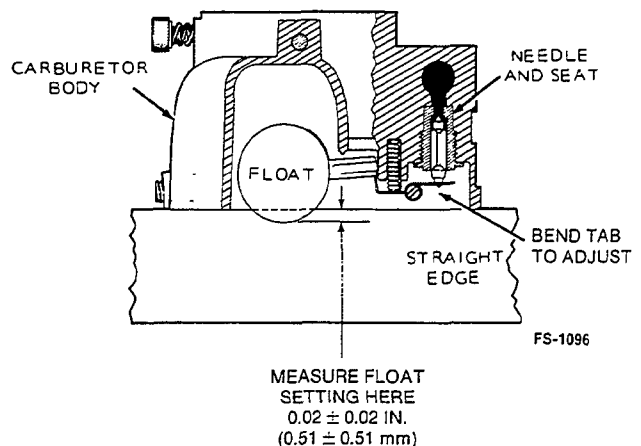

FIGURE 20. CARBURETOR FLOAT SETTING
4. Invert the carburetor and check the float setting (see Figure 20). The float should be  $0.02 \pm 0.02$  inch ( $0.51 \pm 0.51$  mm) above the machined mating surface (without gasket). Bend the float tab as required.
5. If it is necessary to reset the float level, loosen the screw near float valve axle (pin) and bend the float arm near float valve axle (pin) to position float flush with top edge of carburetor float bowl. See Figure 20.